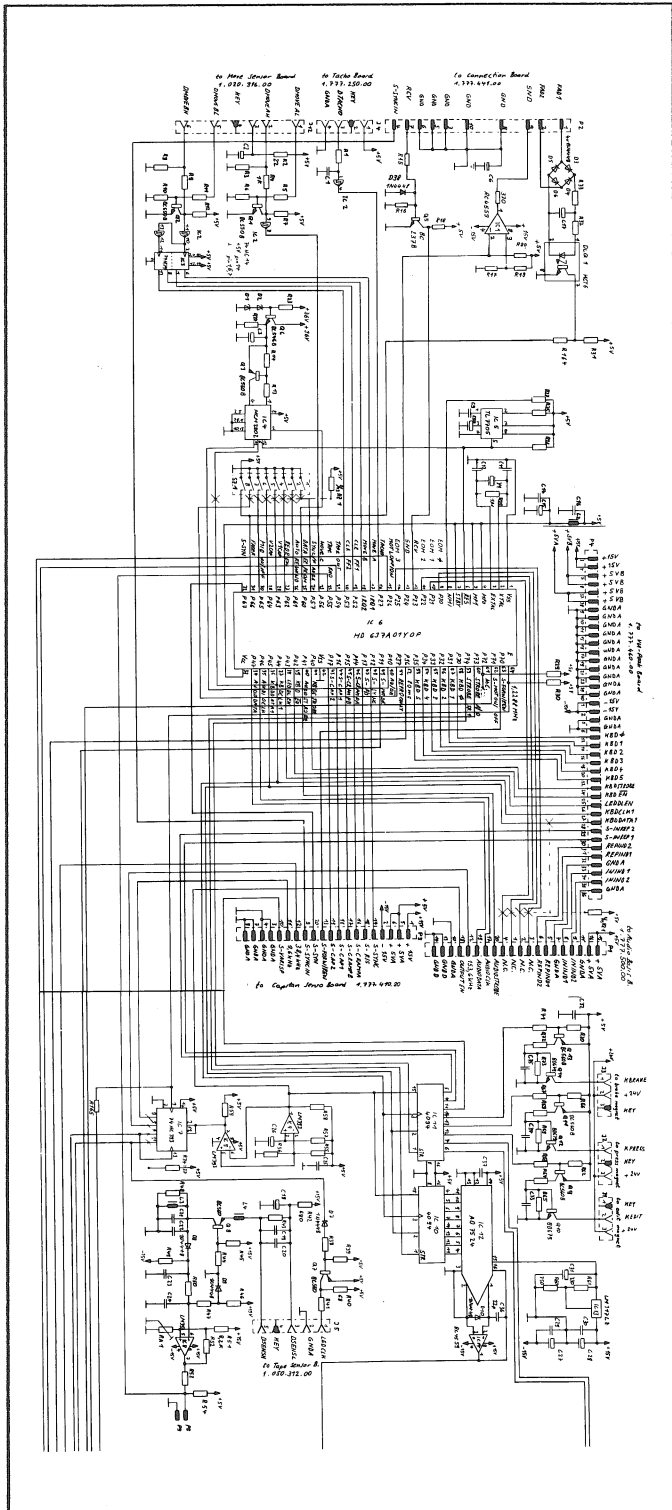

Fig. 3
- The computer calculates the correct tape tension based on the tape speed and the speed of the right-hand pancake for the pick up motor. Signal path: Processor IC6 (Fig. 3), serial bus (KBDDATA1), shift register IC10 (Fig. 3), D/A converter IC12 (Fig. 3).
The tacho roller which features 5 indexed segments, is scanned by two optocouplers (DLQ1, QLQ2). The scanned signals are taken via connector (J12) of the evaluation circuit to the CONTROL BOARD (Fig. 3). The processor can determine the speed and the tape move direction by means of the evaluation circuit (IC2, IC3, and Q1, Q2).
On the TAPE SENSOR BOARD there is an IR transmit diode (DL1) that is modulated with 38.4 kHz; as well as an IR receive transistor (QL1) which, depending on the tape type (normal or marking tape), supplies current to the parallel resonant circuit (L4, C19, C20) on the CONTROL BOARD (Fig. 3). The filter signal is rectified and taken to the comparator (IC8). The evaluated signal is input to the processor (IC6, pin 22).